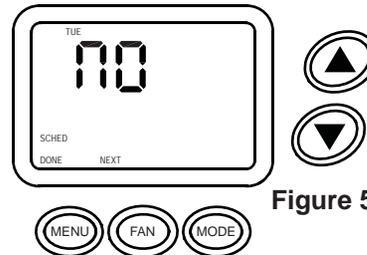

Figure 5
15. **PRESS** the FAN button to continue. TUE no will appear on the display (Figure 5).